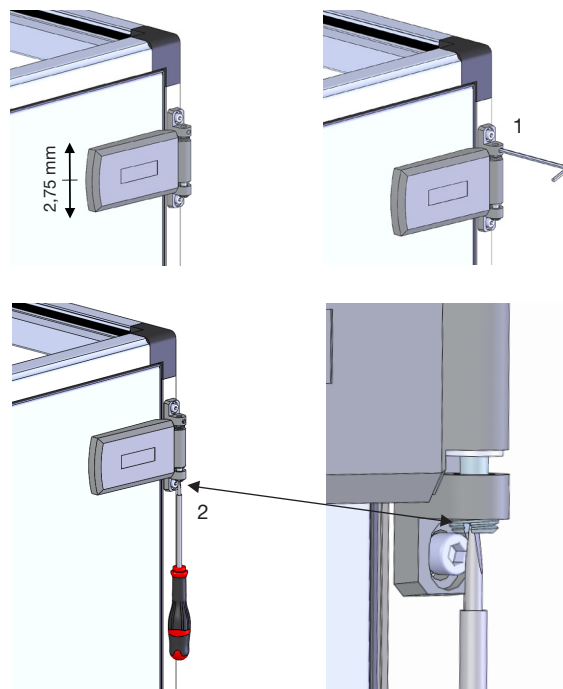

Figure 37
- For adjusting the door position in vertical direction, adjust the screw in the lower part of the hinge as in Figure 37.
- Loosen the screw (1)
- Adjust the height (2)
- Tighten the screw (1)